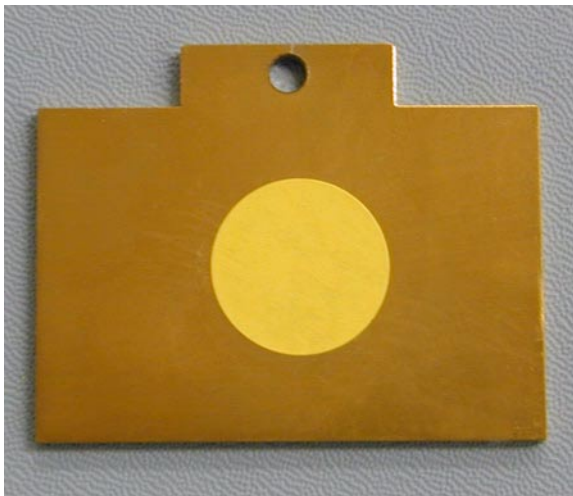

Figure 59 Target plate with yellow label at its center
- 4 Affix a yellow label to the center of the back side of a MALDI plate, as shown on Figure 59. Be careful to select the back of the plate rather than the front side since any adhesive residue from the label can contaminate the surface of the plate and render it unusable.